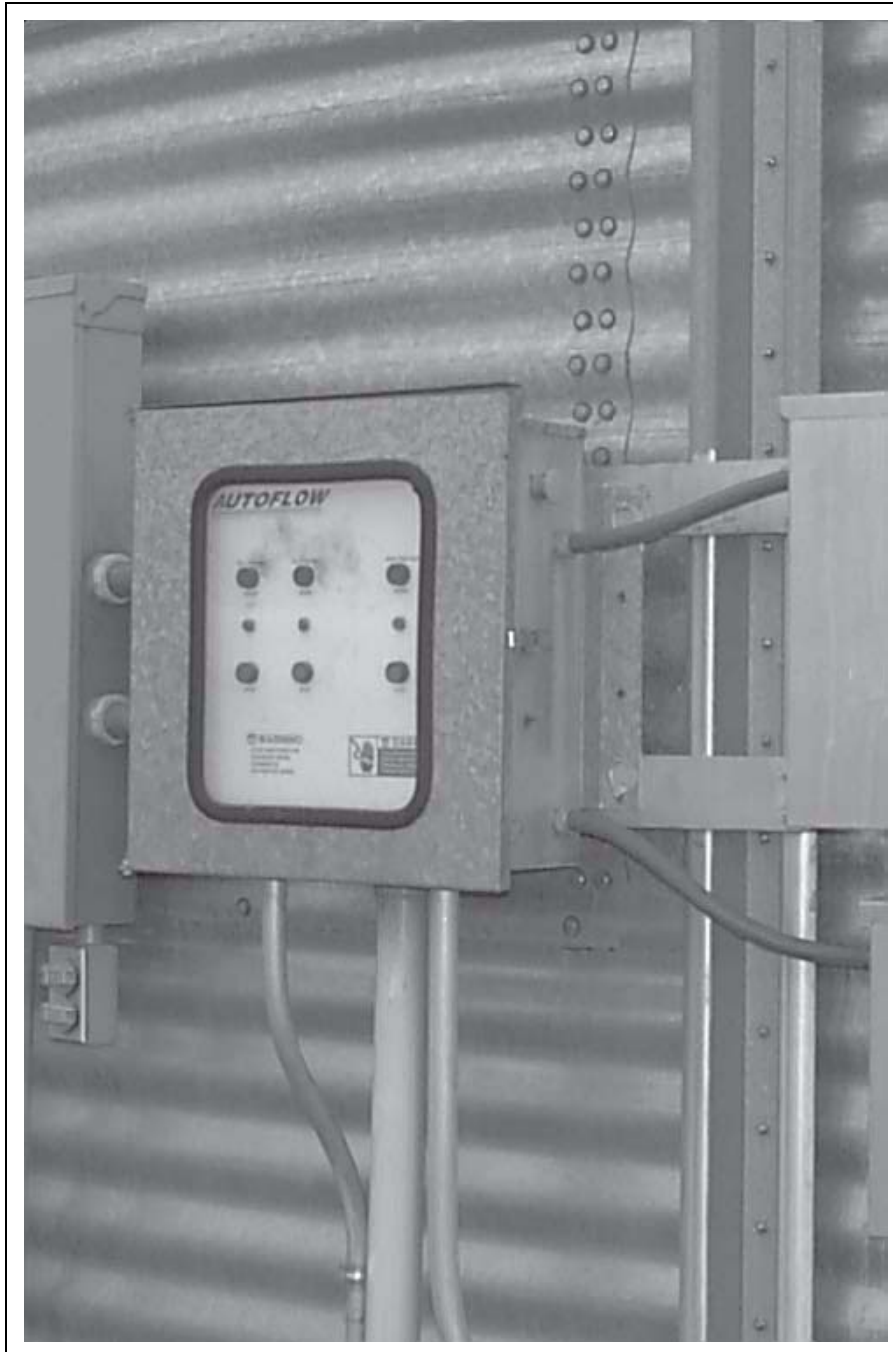

**Figure 3C** *Illustration of the bolt pattern for the autoflow control box.*
3. Use the hole pattern in Figure 3C on Page 12 to drill holes for mounting the Autoflow control box.